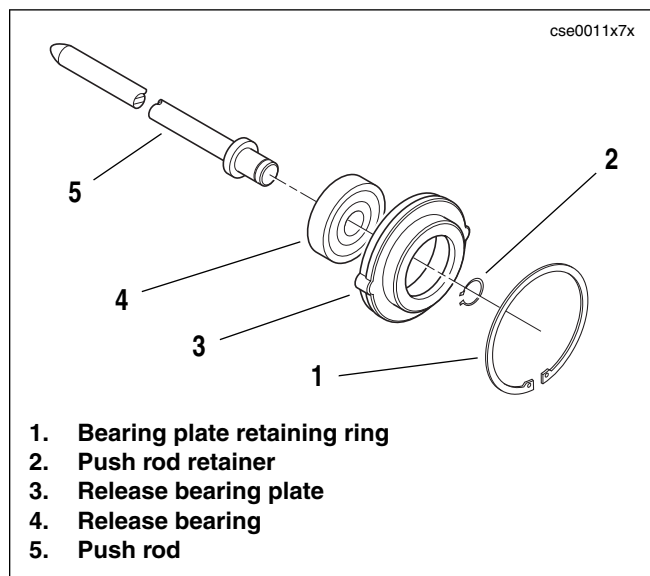

Figure 6-2. Push Rod And Release Bearing
3. See Figure 6-2. Remove bearing plate retaining ring (1).
4. Pull out release bearing plate (3) with release bearing (4) and push rod (5).
5. Remove push rod retainer (2).
1. See Figure 6-2. Pressing on the outer race, press a new release bearing (4) into bearing plate (3).
2. Assemble push rod (5) to bearing.
3. Snap in push rod retainer (2).
5. Snap in bearing plate retaining ring (1).